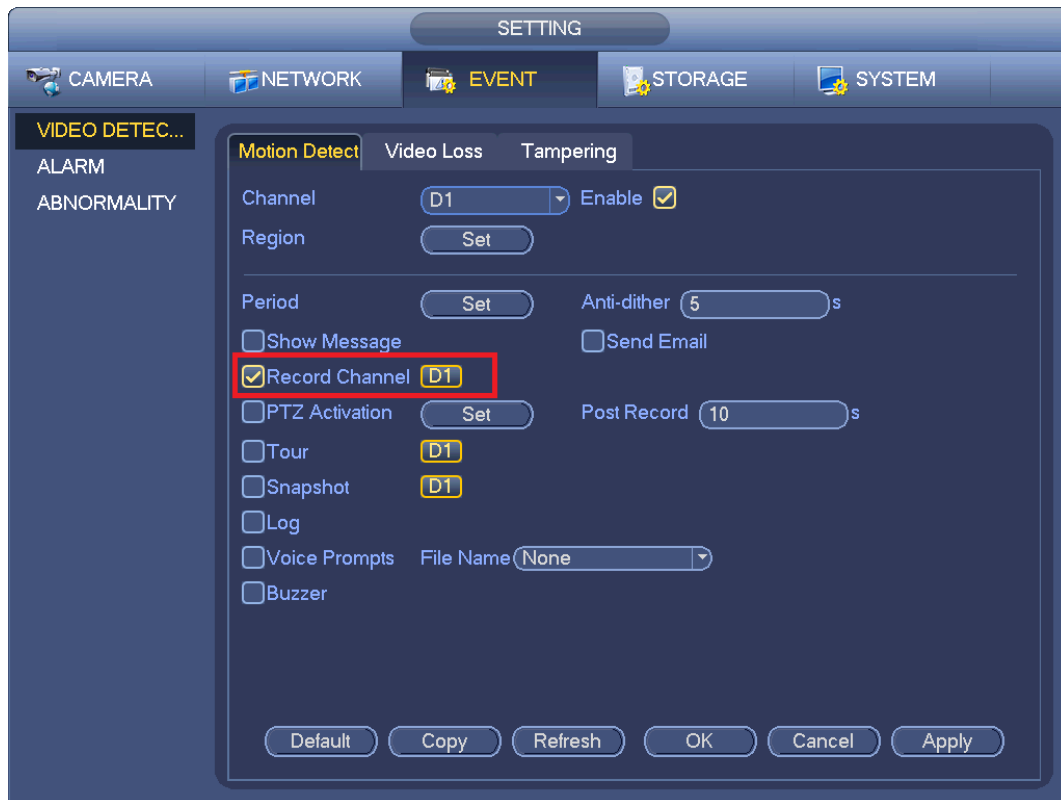

Figure 4-31
- When the record type is MD (motion detect), alarm, MD&Alarm, please enable the channel record function when corresponding alarm occurs. For example, when the alarm type is MD, from main menu->Setting->Event->Video Detect->Motion Detect, please select the record channel and enable record function. See Figure 4-31.